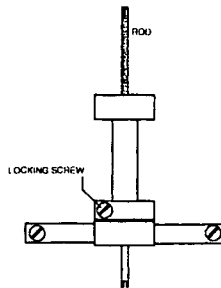
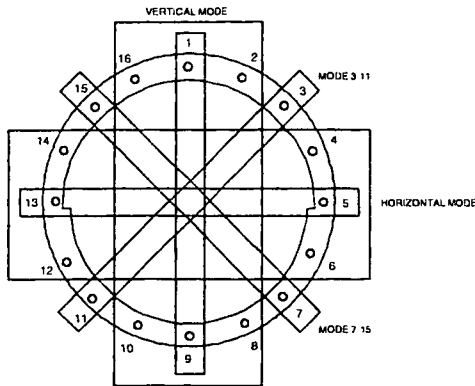

Figure 23 QBC trimmer in detail
Figure 24 QBC frequency modes
15. On the front side and the back side of the QBC you can find the adjustment screws for the trimmers. Loosen the screws that lock the trimmers for all QBC rods (see Figure 23 and Figure 24).
To adjust the QBC, use the following trimmers according the measured offset: (See Figure 24)